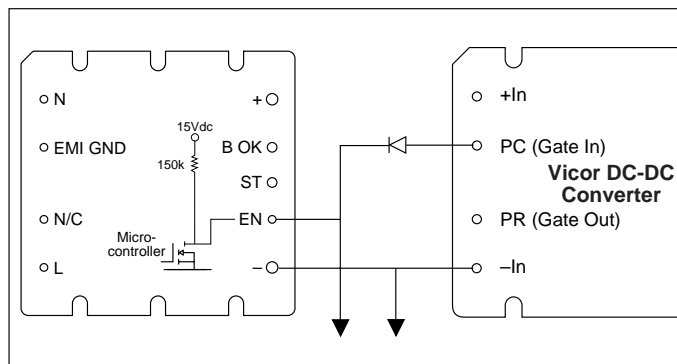

Figure 10—Enable (EN) function
Enable (EN) Pin. (see Fig. 10) The Enable pin must be connected to the PC or Gate-In pin of all converter modules to disable the converters during power-up. Otherwise, the converters would attempt to start while the hold-up capacitors were being charged through an unbypassed current limiting thermistor, preventing the bus voltage from reaching the thermistor bypass threshold, thus disabling the power supply. The Enable output (the drain of an N channel MOSFET) is internally pulled up to 15V through a 150kΩ resistor.